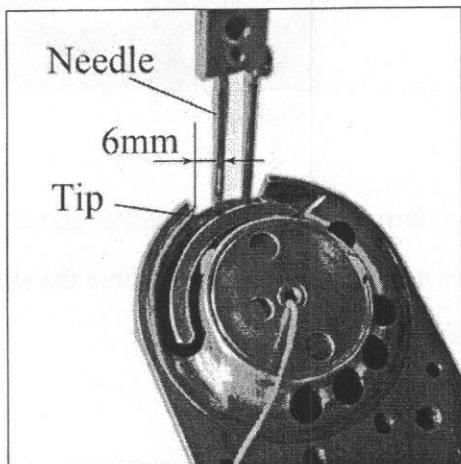
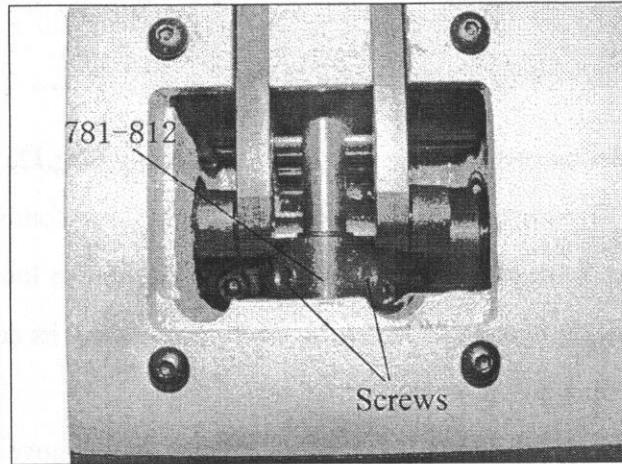

Fig.13
Fig.14
4.4 Adjustment setting of shuttle's position (Fig.13、Fig.14)